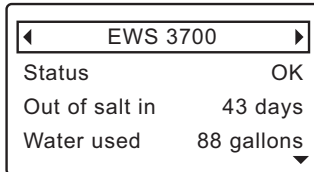

FIG. 76
1. Press the remote's LEFT (◀) or RIGHT (▶) buttons to manually advance to the status screen for the device to delete. The device name will show in the header. (See Figure 76).